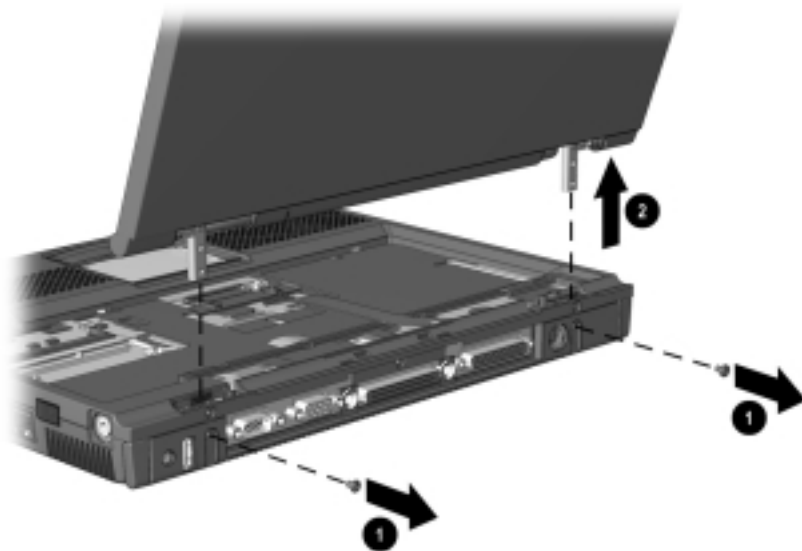

Figure 5-15. Removing the Display Assembly
13. Remove the two screws that secure the display assembly to the base enclosure ❶ (Figure 5-15).